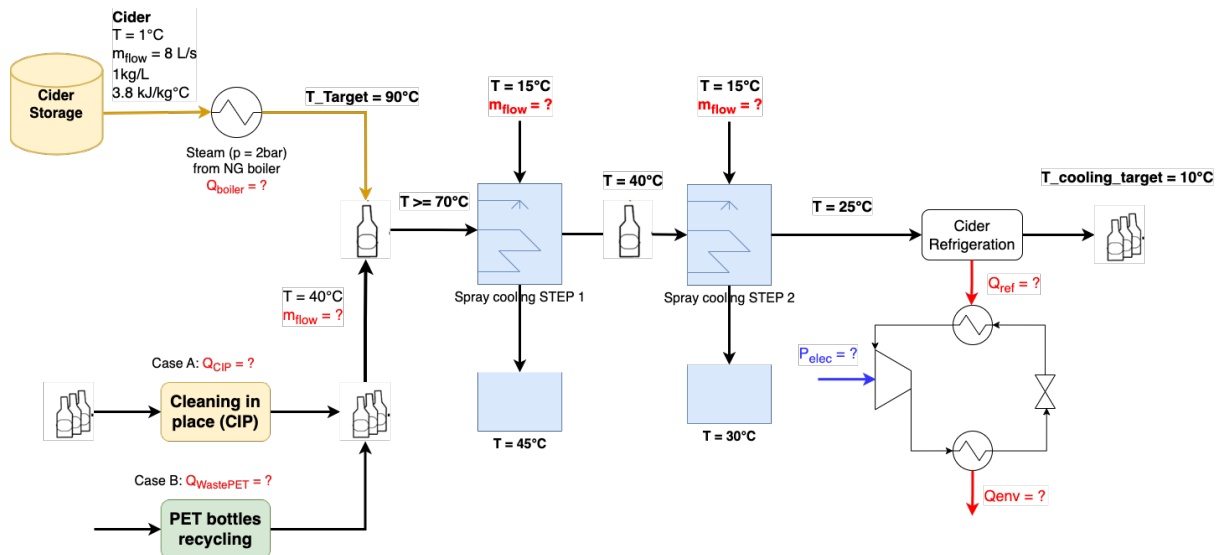
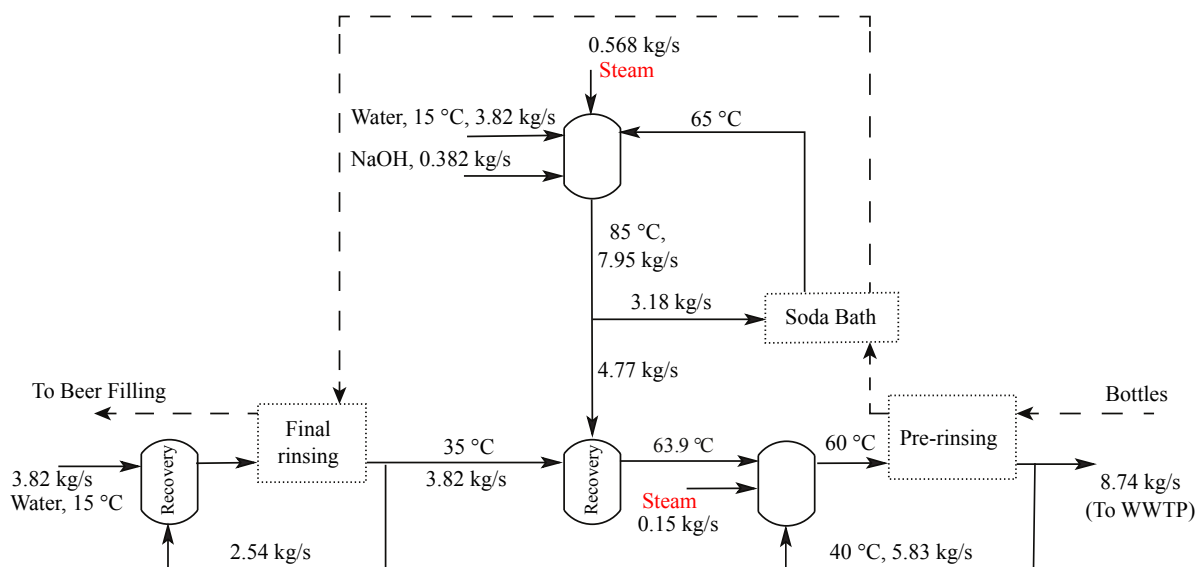
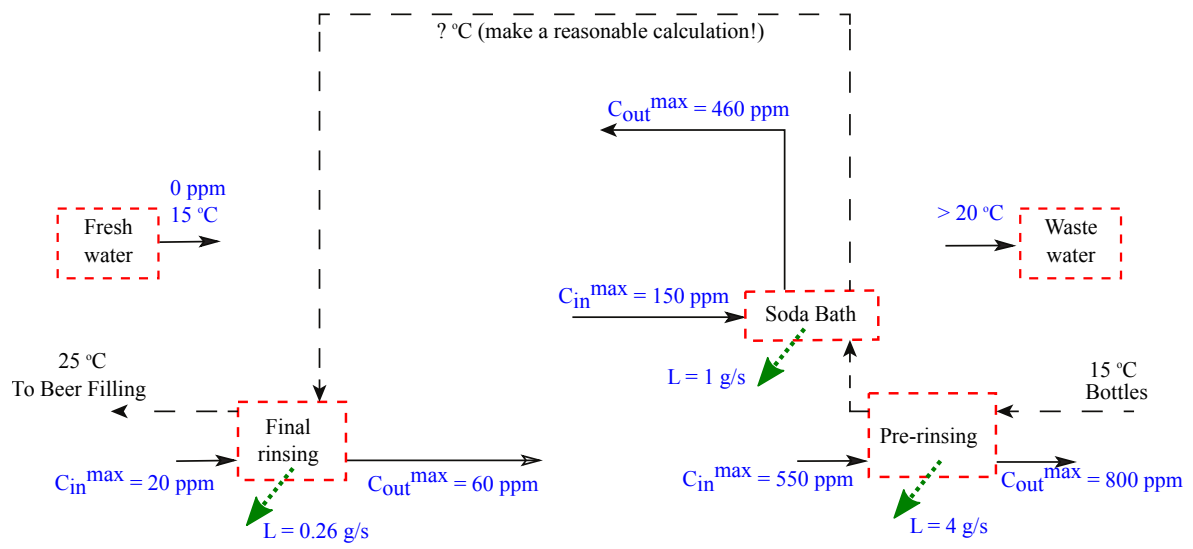

Figure 2: Bottling process (numbers in black refer to the current case).
Figure 4: CiP for glass bottles (adapted from [3])
Figure 5: Input parameters of CiP
The bottling process of the cider plant should be optimized in terms of energy efficiency. Therefore your help is required for designing a heat recovery network and optimizing the minimum approach temperature $\Delta T_{\min}$ in the heat exchangers. In Figure 2 the existing process is displayed. Use the information found in Figure 2 and Table 1 to solve the optimization problem. The two target temperatures are a process requirement. The temperature after bottle filling is bound to be above 70°C . Additionally, the inlet temperature of the bottles cannot be altered. Questions 1-7 provide guidance to solve the exercise.
As part of the cider production process shown in Figure 2, there is an existing cleaning-in-place (CiP) facility that is used for recycling the glass bottles, as described in [3]. The current state of the process is shown in Figure 4.
As it can be observed from Figure 4, the wastewater is being released at 40 °C. We will assume that the bottles enter the cleaning process at 15 °C, and are heated up in pre-rinsing and soda bath to a temperature which is not measured. This heat is further recovered in the final rinsing by heating up the water. We further assume that the final temperature of the bottles is 40 °C (entrance temperature to the bottling process shown in Figure 2). The goal is to minimize the hot utility (i.e. steam) and fresh water consumption, and wastewater generation. The main challenge in this problem is the fact that water has two duties, i.e. removing contamination from the dirty bottles entering the CiP and heating them up or cooling them down. Figure 5 provides additional input data of the CiP:
- First, note that the data in Figure 4 and Figure 5 are for 19.1 kg/s of cider production. Your problem is defined for 8 l/s of cider (Figure 2). You need to change the appropriate parameters to address this case. (*Hint: you need to multiply some parameters by this ratio!*)